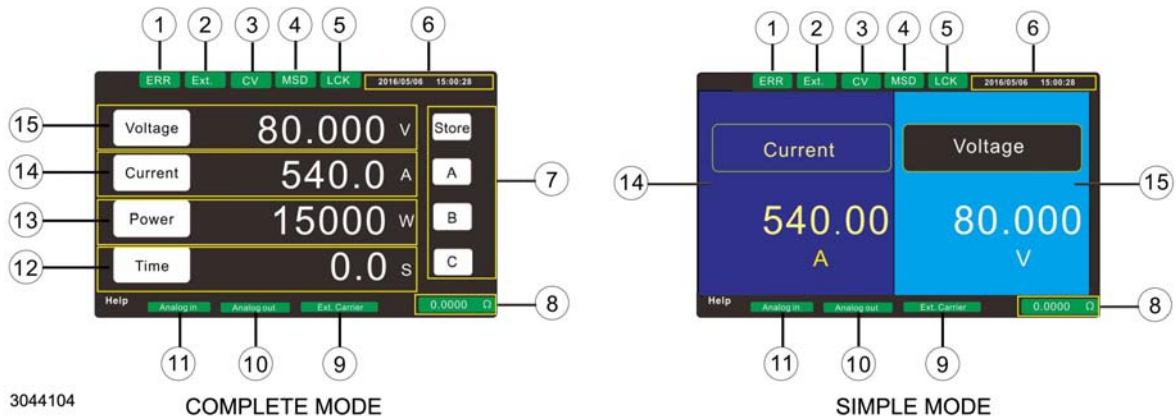
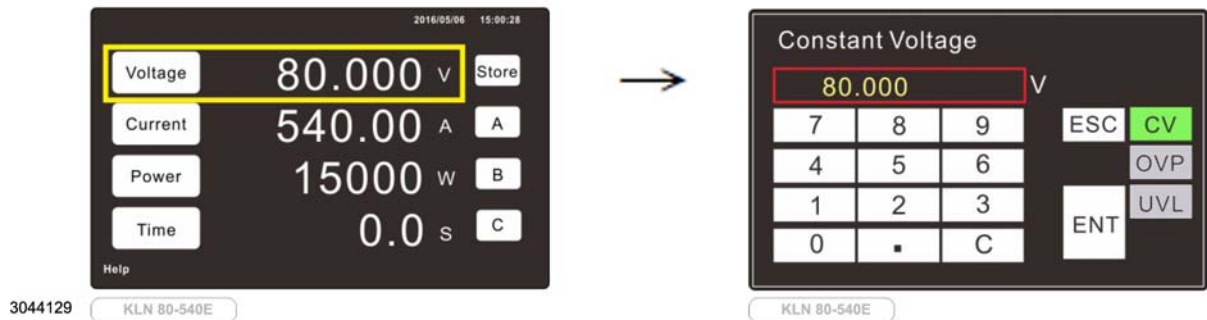
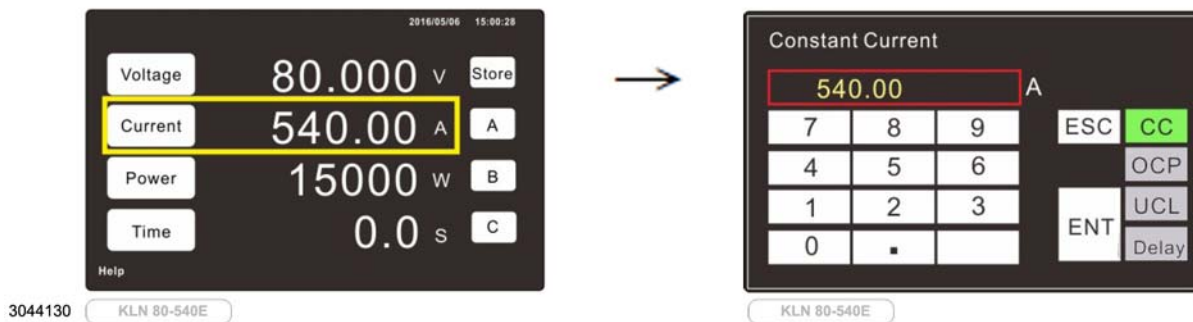

FIGURE 3-2. HOME SCREEN^(‡)
FIGURE 3-3. TOUCHSCREEN SETTING OF VOLTAGE, OVERVOLTAGE PROTECTION AND UNDERVOLTAGE LIMIT
FIGURE 3-4. TOUCHSCREEN SETTING OF CURRENT, OVERCURRENT PROTECTION, UNDERCURRENT LIMIT AND PROTECTION DELAY(‡)
NOTE: Unless otherwise noted, operating instructions start from the Home screen (see Figure 3-2). Press HOME switch for at least 1.5 seconds to exit submenus and return to the Home screen.
Table 3-2 shows the functions of all displays, indicators and pressure sensitive keys that may appear on the Home screen keyed to item numbers appearing in Figure 3-2. Note indicators are visible only as applicable. The look of the Home screen depends on the selection of Complete Mode or Simple Mode (See PAR. 3.4.2)
If necessary, press **HOME** switch for at least 1.5 seconds to bring up the home screen (see Figure 3-2). To adjust the value of voltage or current see either A or B below.
B. TOUCHSCREEN. Touch the **Voltage** or **Current** key (or the corresponding numerical value) shown on the display (see Figure 3-3 for voltage, Figure 3-4 for current). **CV** (Constant Voltage) or **CC** (Constant Current) is highlighted in green. Touch the numerical keys on the virtual keypad shown on the display in order to change the value. Touch **ENT** (Enter) key on display to confirm, or **ESC** (Escape) to cancel.
If necessary, press **HOME** switch for at least 1.5 seconds to bring up the home screen (see Figure 3-3), then touch **Voltage** key. **CV** is highlighted in green. To change Overvoltage Protection or Undervoltage Limit value touch the **OVP** or **UVL** key, respectively. The key changes to yellow and the **OVP** or **UVL** value is displayed. Touch the keys on the virtual keypad shown on the display in order to change the value. Touch **ENT** key on display to confirm, or **ESC** to cancel.
If necessary, press **HOME** switch for at least 1.5 seconds to bring up the home screen (see Figure 3-4), then touch **Current** key. **CC** is highlighted in green. To change Overcurrent Protection or Undercurrent Limit touch the **OCP** or **UCL** key, respectively. The key changes to yellow and the **OCP** or **UCL** value is displayed. Touch the keys on the virtual keypad shown on the display in order to change the value. Touch **ENT** key on display to confirm, or **ESC** to cancel.
If necessary, press **HOME** switch for at least 1.5 seconds to bring up the home screen (see Figure 3-2), then touch **Current** key. **CC** is highlighted in green (see Figure 3-4). To change Overcurrent Protection Delay touch the **Delay** key. The key changes to yellow and the Delay value is displayed. Touch the numerical keys on the virtual keypad shown on the display in order to change the value. Touch **ENT** key on display to confirm, or **ESC** to cancel.
If necessary, press HOME switch for at least 1.5 seconds to bring up the home screen (see Figure 3-2). To adjust the value of power* see either A or B below.
All locally available functions of the power supply that can be accessed by the touch screen are available via the MENU^(†). If necessary, press **HOME** switch for at least 1.5 seconds to bring up the home screen (see Figure 3-2). Then press **ENTER** to access the MENU. The complete menu structure is shown in Figure 3-7. The MENU allows the user to select various functions (see PAR. 3.3.1) and change function values (see PAR. 3.3.2).